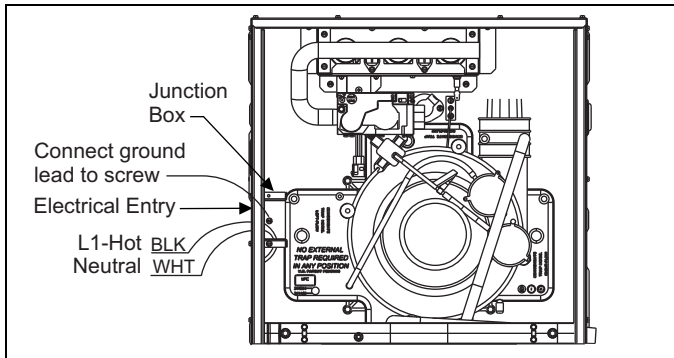

FIGURE 17: Electrical Wiring
- Remove the screws retaining the wiring box cover. Route the power wiring through the opening in the unit into the junction box with a conduit connector or other proper connection. In the junction box there will be 3 wires, a Black Wire, a White Wire. Connect the power supply as shown on the unit-wiring label on the inside of the blower compartment door or the wiring schematic in this section. The black furnace lead must be connected to the L1 (hot) wire from the power supply. The white furnace screw must be connected to neutral. Connect the power supply ground to the green screw (equipment ground) An alternate wiring method is to use a field provided 2" (5.1 cm) x 4" (10.2 cm) box and cover on the outside of the furnace. Route the furnace leads into the box using a protective bushing where the wires pass through the furnace panel. After making the wiring connections replace the wiring box cover and screws. Refer to Figure 17.
- The furnace's control system requires correct polarity of the power supply and a proper ground connection. Refer to Figure 17.